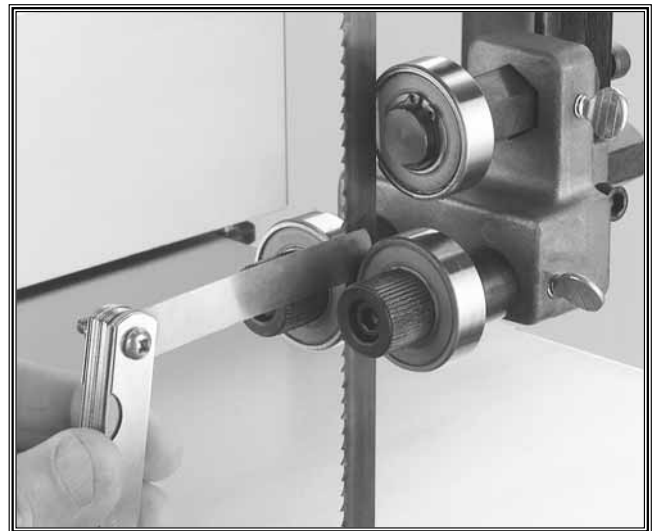

Figure 18. Setting side bearing clearance.
5. Rotate the eccentrics so the side bearings have a gap of 0.004" on each side of the blade as indicated by a feeler gauge, and tighten the thumbscrews. See **Figure 18**.